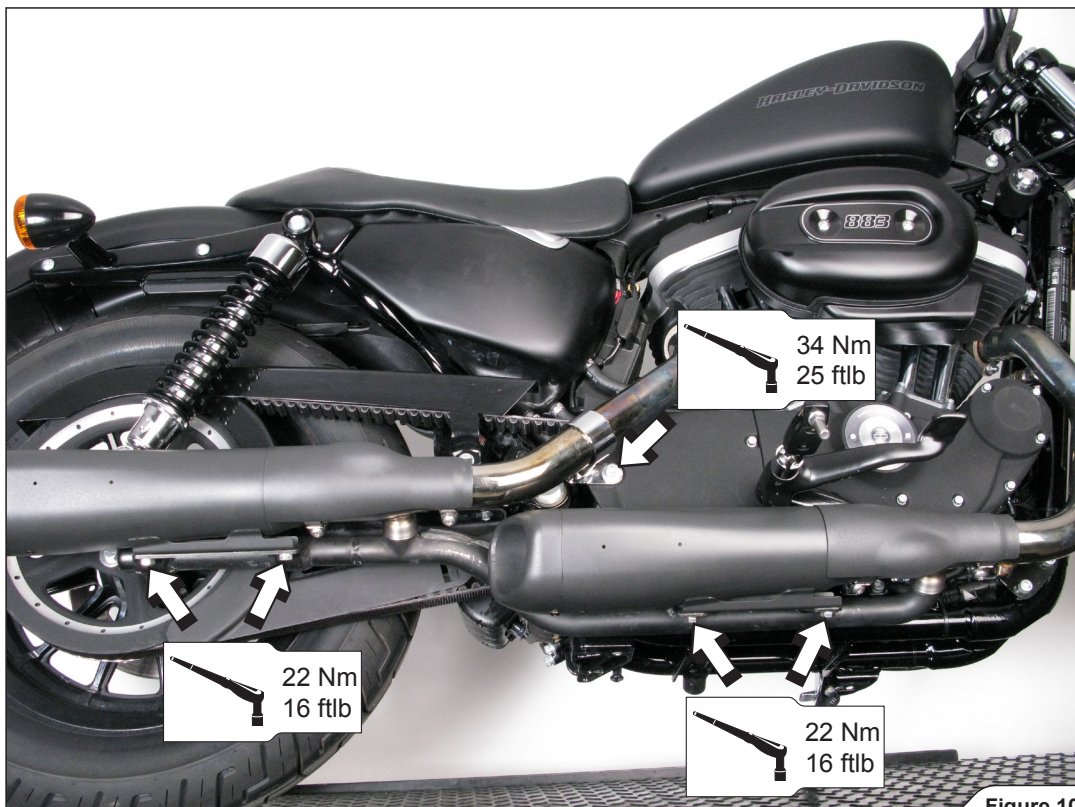

Figure 10
4. Align the mufflers and tighten the mufflers' and rear header's bracket bolts to a specified torques (Figure 10).